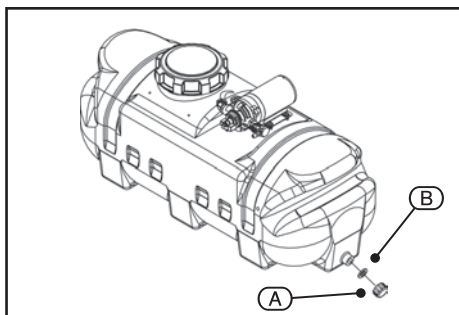

FIG. 2
9.2 ATTACH DRAIN CAP TO TANK – FIG. 2